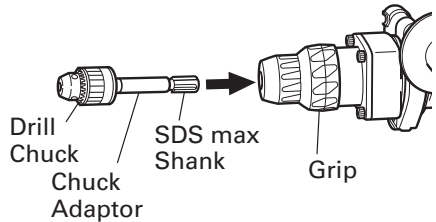

Fig. 14
- (2) Attaching chuck adaptor to drill chuck (Fig. 14)
- (3) Drilling